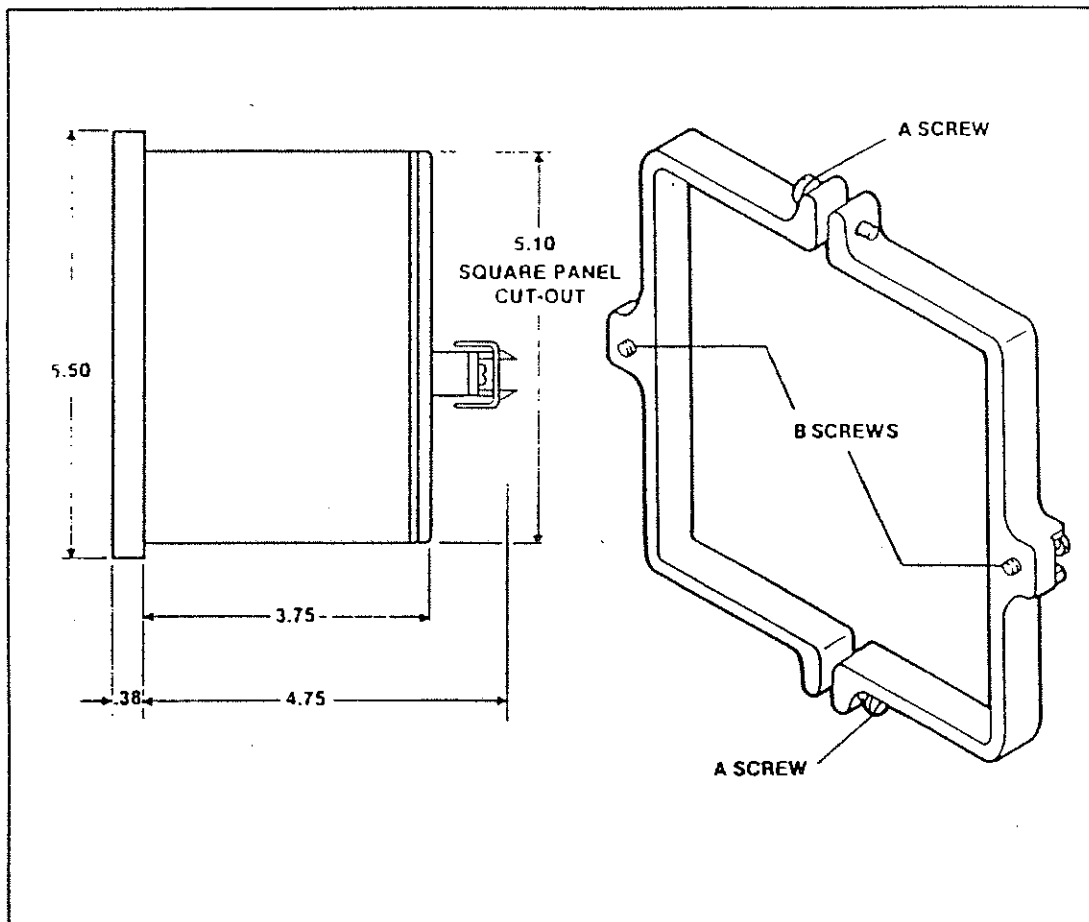

Figure 2. Detailed profile of the MK 575 (left) and isometric view of clamp ring (right).
1. Loosen the clamp ring (see two "A" screws in Figure 2)
5. Seal the front flange firmly against the panel by tightening the two "B" clamping screws hand tight (see Figure 2). Do not overtighten these screws. Overtightening will cause the clamp ring to slip.